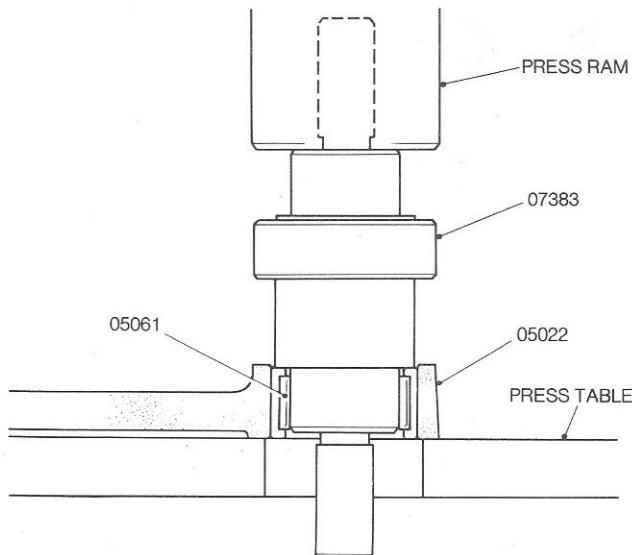

Figure 6 Removing the Connecting Rod Needle Roller Bearing
- 6.5.9 Re-fit the Connecting Rod to the Crankshaft and check the big-end assembly for wear. Replace the bearing if excessive wear is apparent, using the larger end of Dismantling Press Tool 07383 to push the Bearing out of the Connecting Rod. See Figure 6.